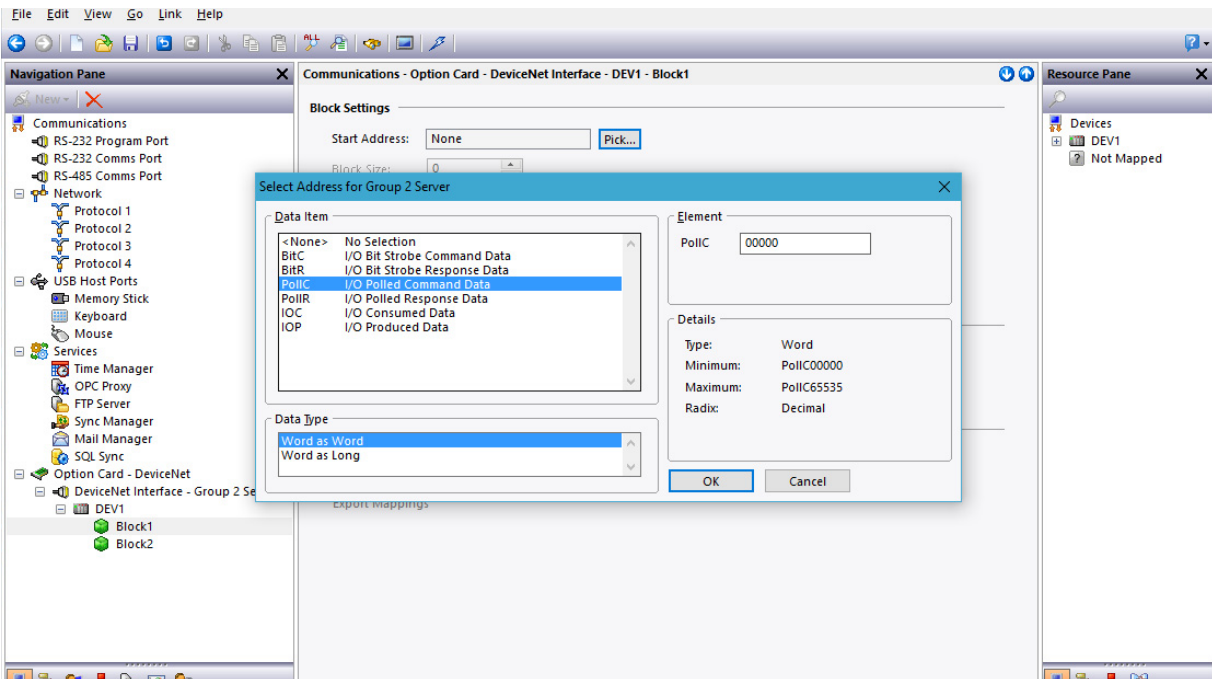

Figure 6.
1. Referring to Figure 6, go to the Navigation Pane and select the DeviceNet device from the tree. Using the *Add Gateway Block* button on the right hand pane, add two Gateway Blocks; one for Read Data and one for Write Data.